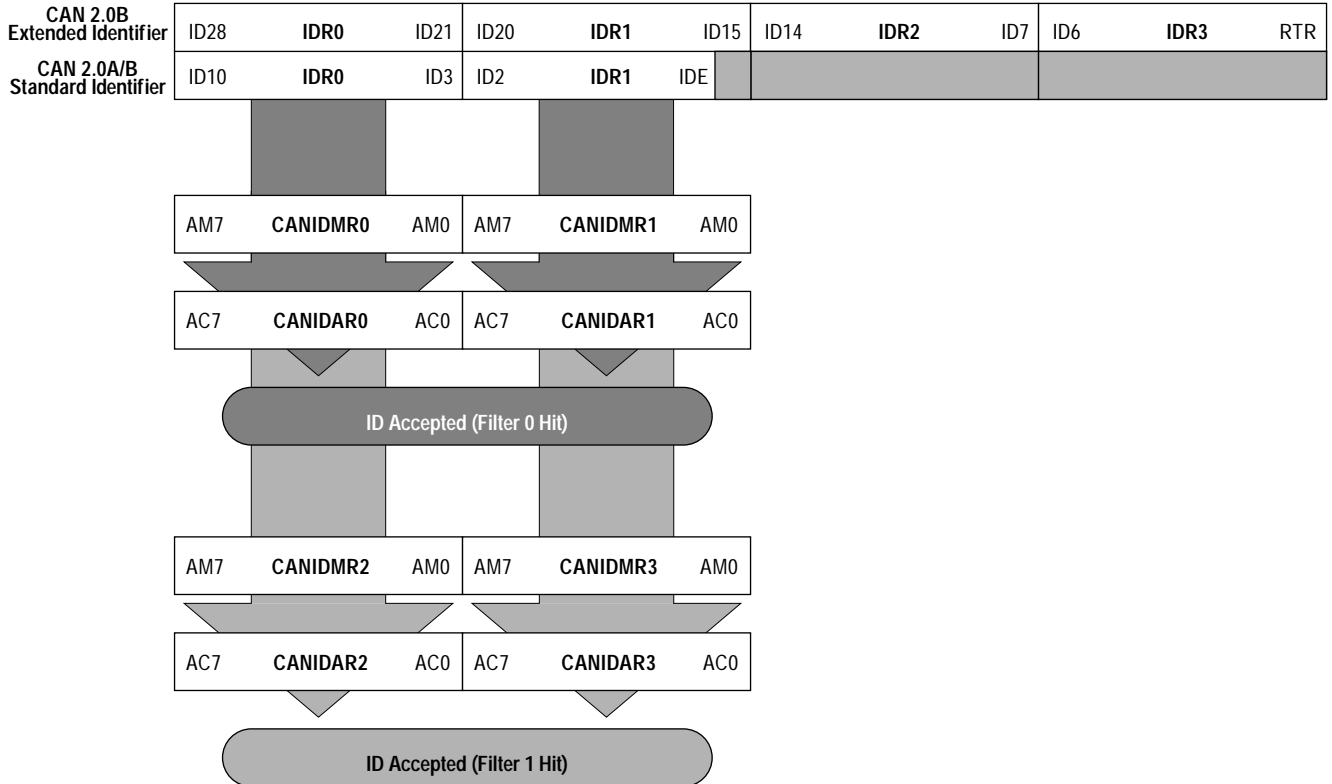

Figure 97 16-bit Maskable Identifier Acceptance Filters
- Four identifier acceptance filters, each to be applied to a) the 14 most significant bits of the extended identifier plus the SRR and IDE bits of CAN 2.0B messages or b) the 11 bits of the standard identifier, the RTR and IDE bits of CAN 2.0A/B messages. Figure 97 shows how the first 32-bit filter bank (CANIDAR0–3,